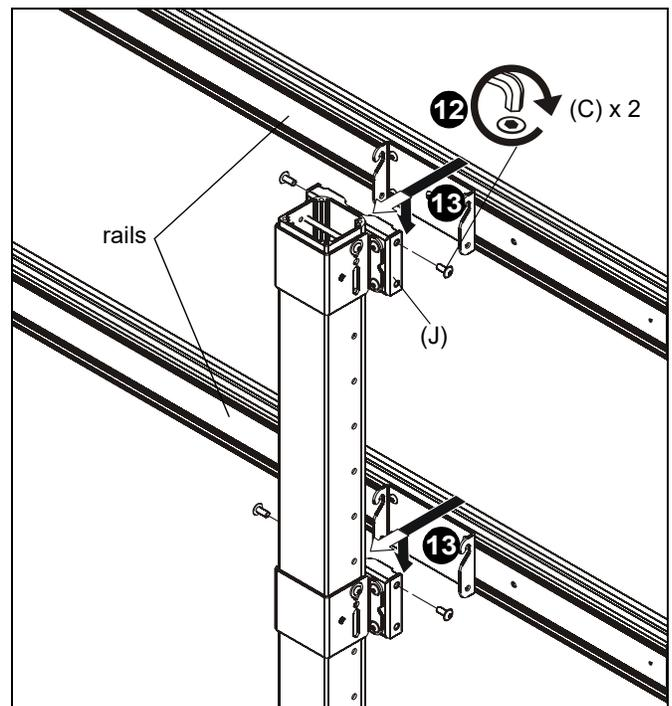

Figure 8
- Install two 5/16-18 x 3/4" button head flange screws (C) into the top holes on each quick connect base (J). (See Figure 8)
- Hang rails into screws installed in previous step to quick connect bases (J). (See Figure 8)